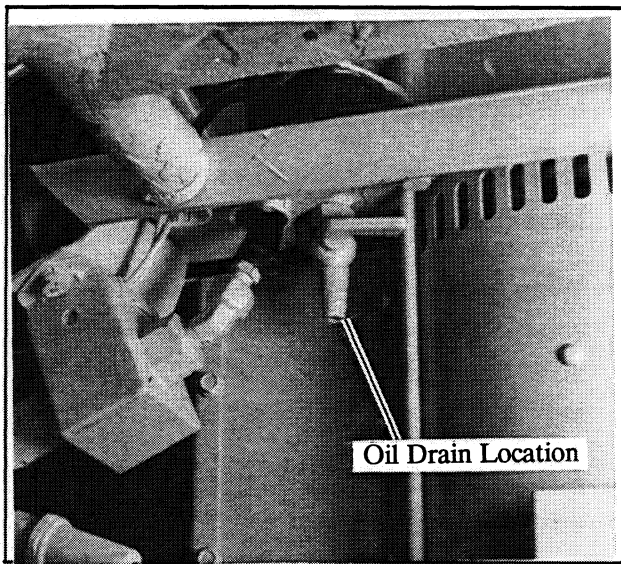

Figure 3-3. Oil Drain Location
Change the oil after the first two (2) hours of operation and at 25 hour intervals thereafter. Change more frequently if operating under dirty, dusty conditions. If possible, drain oil while hot. To drain, open valve. Oil drain valve is located underneath mounting tray. Figure 3-3. Place a container underneath drain valve to catch draining oil. Close valve after oil has completely drained. Oil capacity is 1.2 quarts (1.08 liters). Refer to Oil Selection chart following for correct oil type.